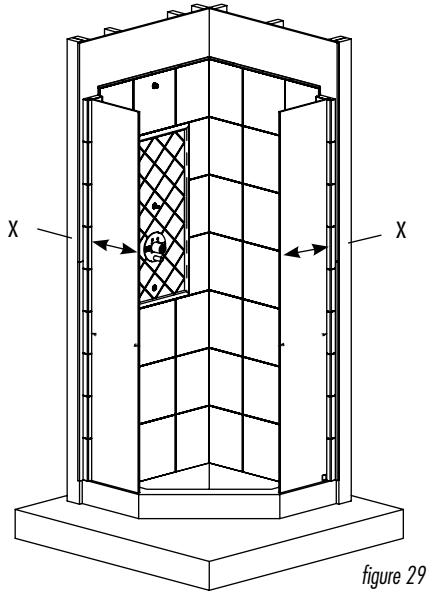
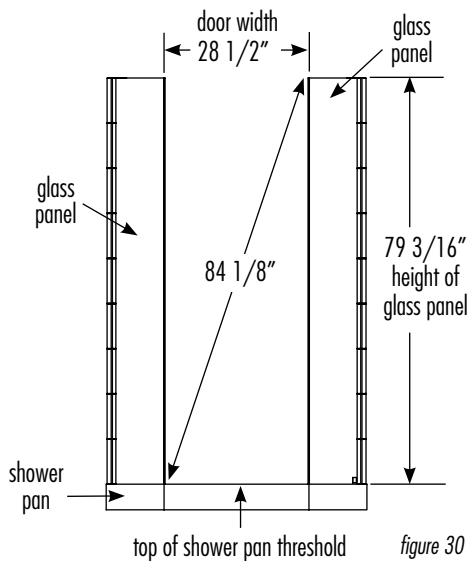
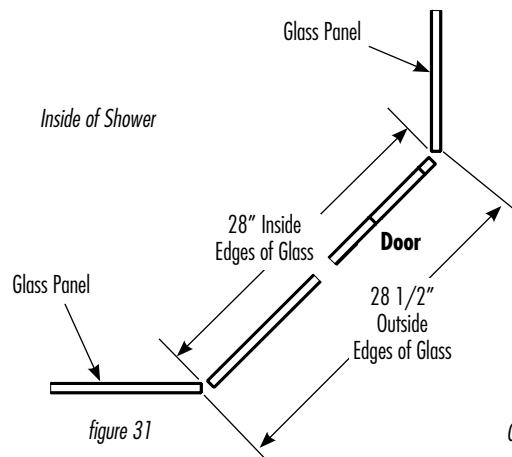

figure 29
figure 30
figure 31
1. Carefully lift the glass panels and set them into position. Make sure the glass panels are stable (fig. 29).
2. The top of the glass panels should be $79 \frac{3}{16}$ " from the top of the pan threshold. The distance between the glass panels should be $28 \frac{1}{2}$ " from the outside edges of the glass and 28" from the inside edge of the glass (fig. 30 & fig. 31). Also, each panel should be the same distance from each wall threshold (fig. 29). Take all measurements from the outside edges of the glass.
4. Measure the positioning of the glass panels to ensure they are in the correct position. Make sure the glass is level across the top and also the vertical edges are square and straight to each other. Measure diagonally to check for straightness. Make any necessary adjustments (fig. 30).
7. Measure again (as in step 4) to make sure the glass panels are still positioned correctly (fig. 30). Adjust the panels if necessary.
15. Measure again (as in step 4) to make sure the glass panels are still positioned correctly (fig. 30). Adjust the panels if necessary.